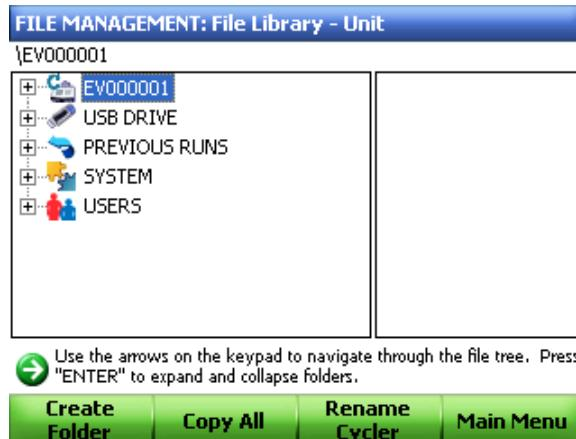

Figure 19. Click **Rename Cylder** to rename the instrument.
- Select **Files** to open the file library and select **Rename Cylder** (Figure 19).